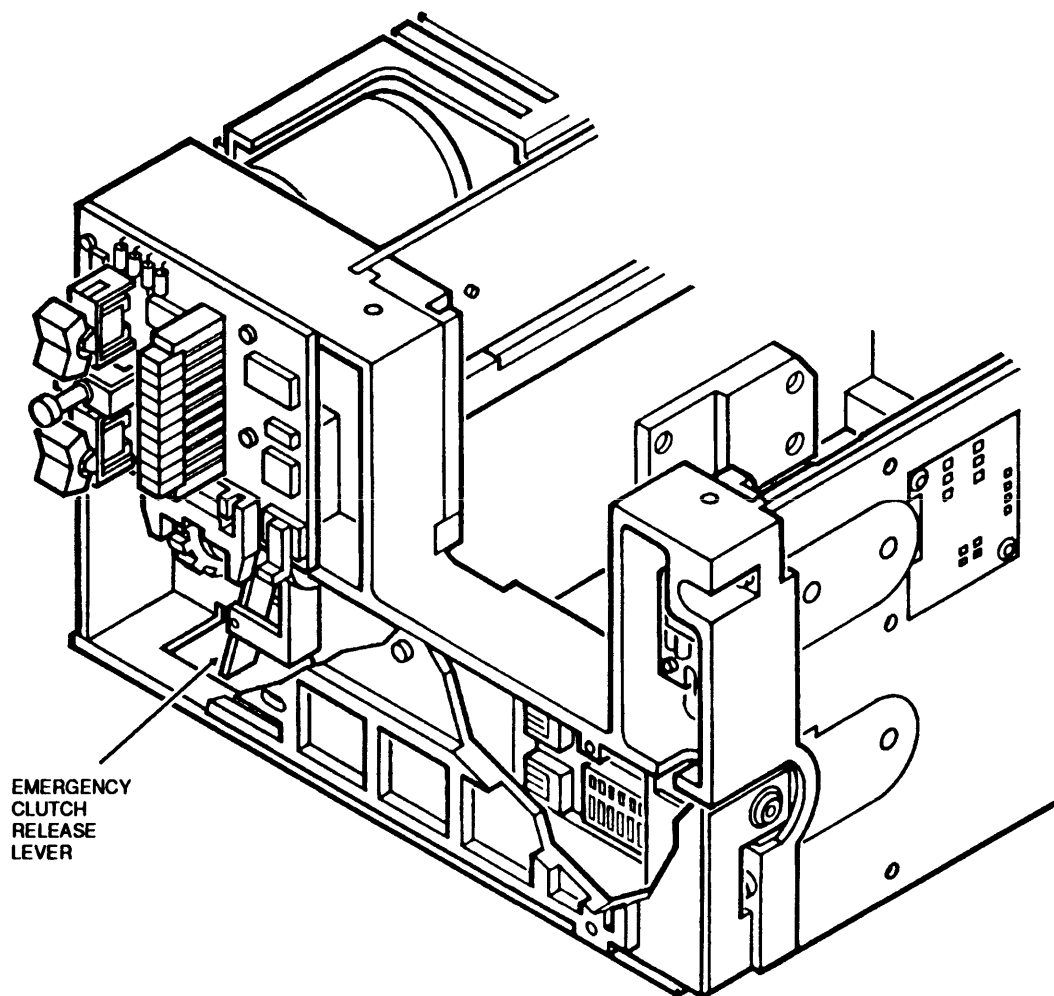

Figure 14
2. Reach under the front of the vertical transmission and locate the clutch release lever (refer to Figure 14).